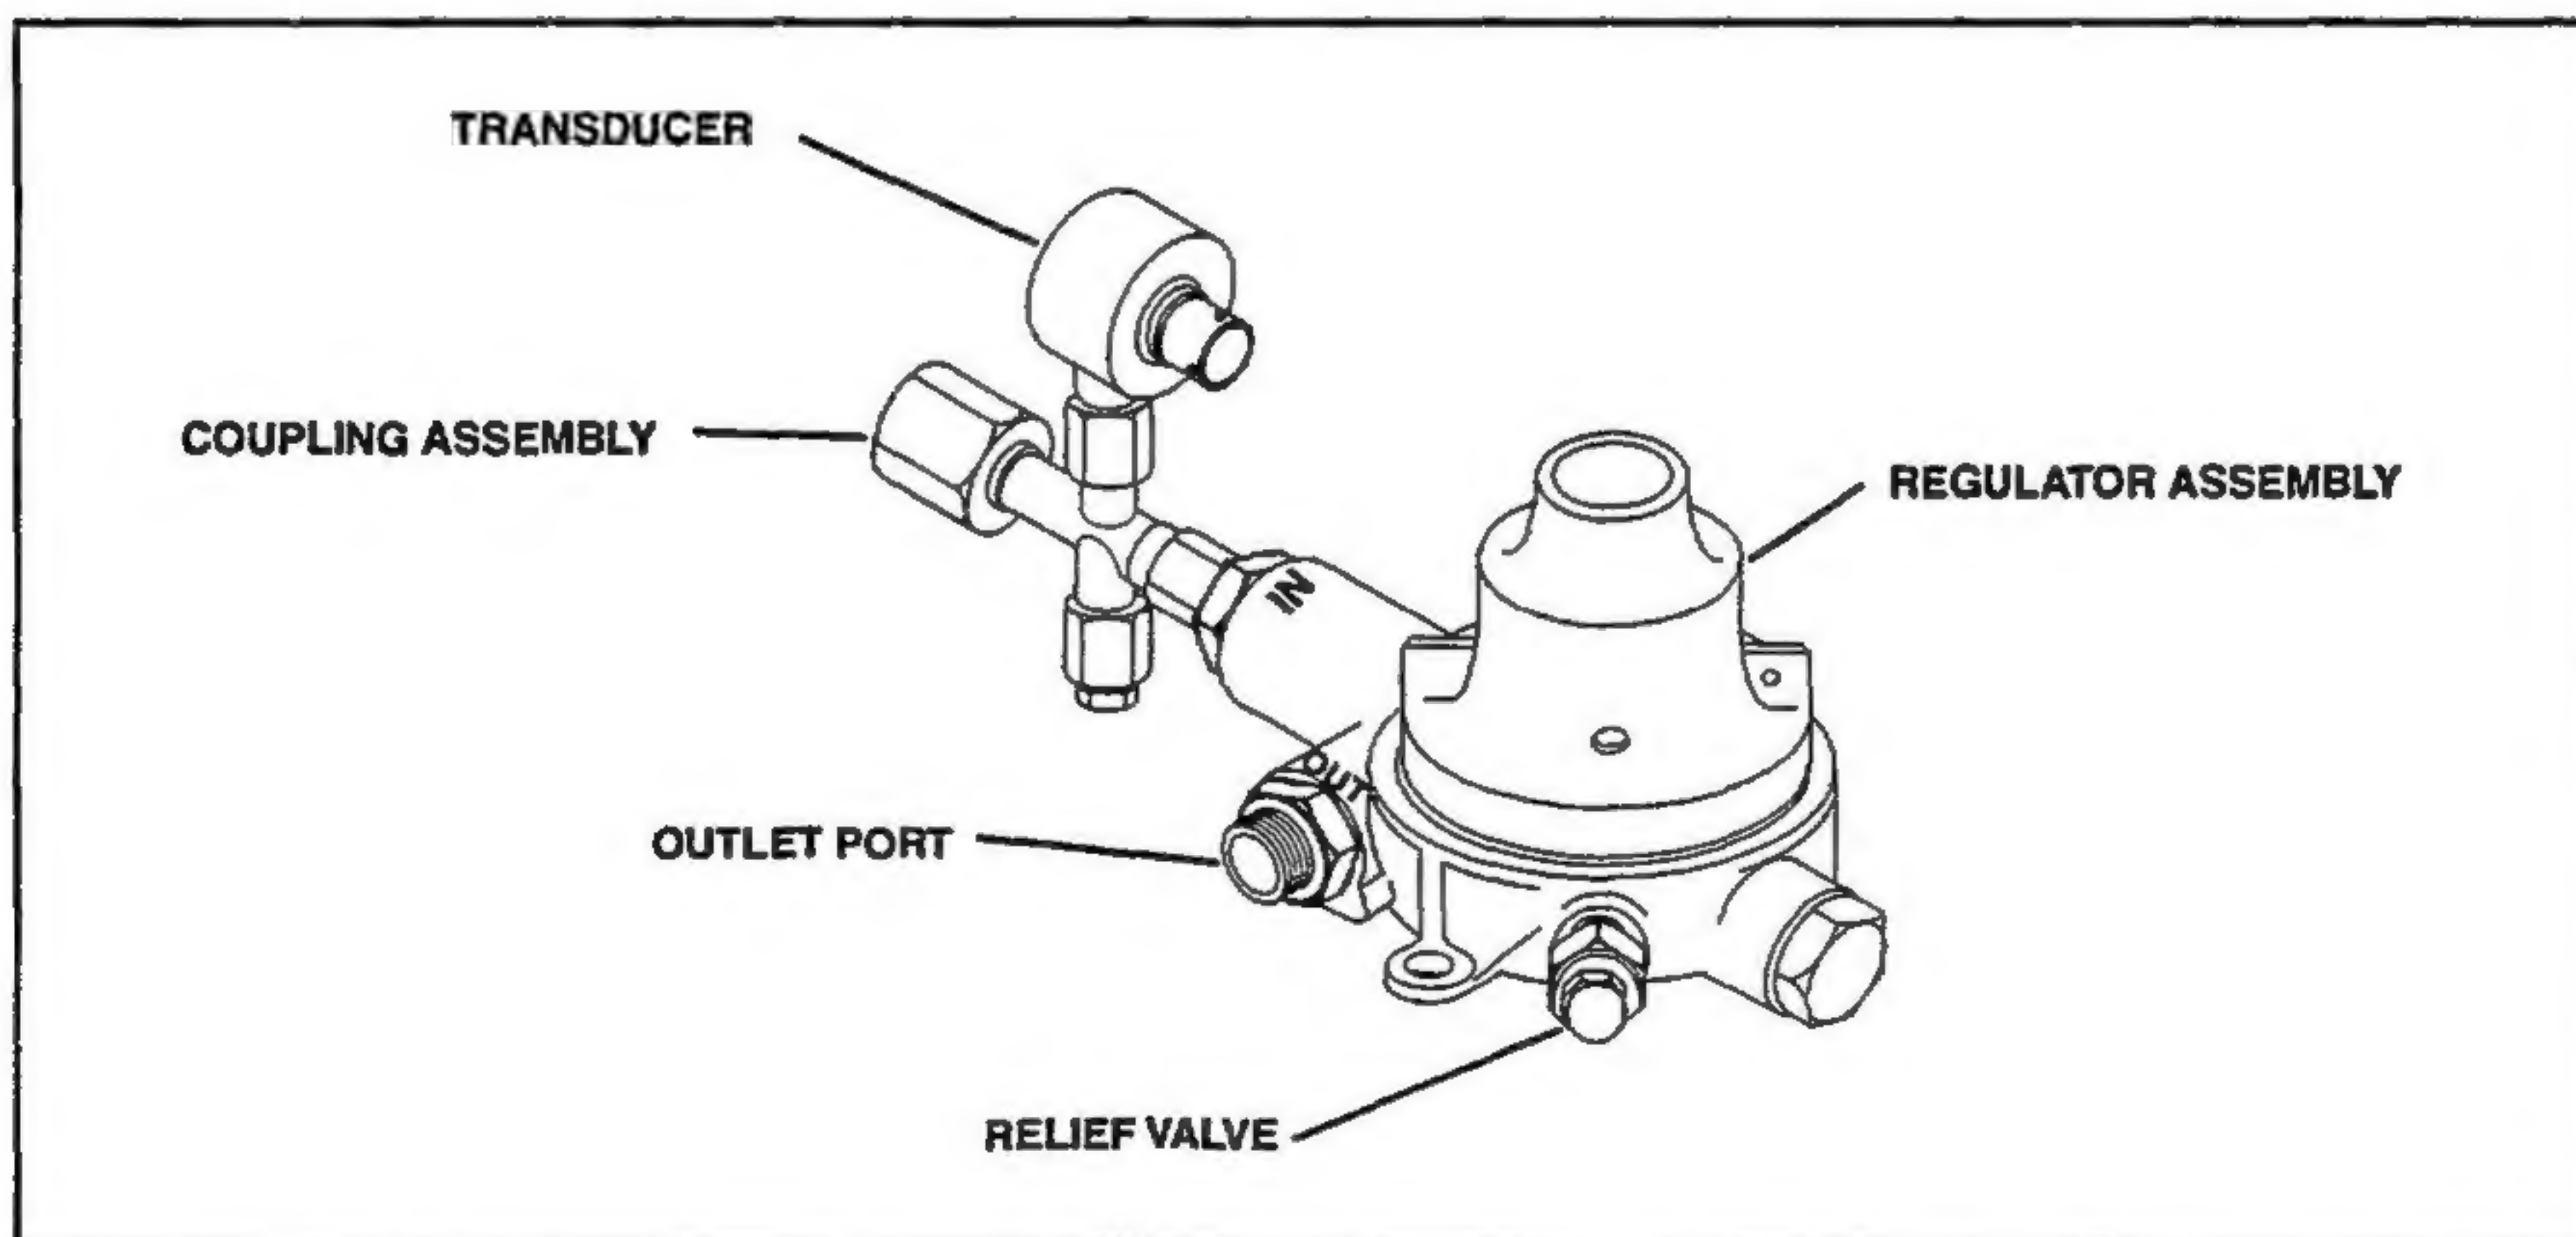

Figure 1 - Crew Oxygen System Regulator, Transducer & Coupling Assembly
This section describes the 803163 Series & 803127 Series Crew Oxygen System Regulator, Transducer and Coupling Assemblies (see Figure 1), and the 804182 Series Transducer and Coupling Assemblies (not shown). The operation of the units and a typical installation configuration are also presented in this section.
- (1) Plug OUTLET port of regulator assembly (65, 65A or 65B, IPL Figure 1). This is only required for the 803163 Series & 803127 Series Crew Oxygen System Regulator, Transducer and Coupling Assemblies.
- (2) Install one plug (15) in coupling assembly (25), or two plugs (15) in coupling assembly (25A).
C. Verify operation of regulator assembly (65, 65A and 65B, IPL Figure 1)